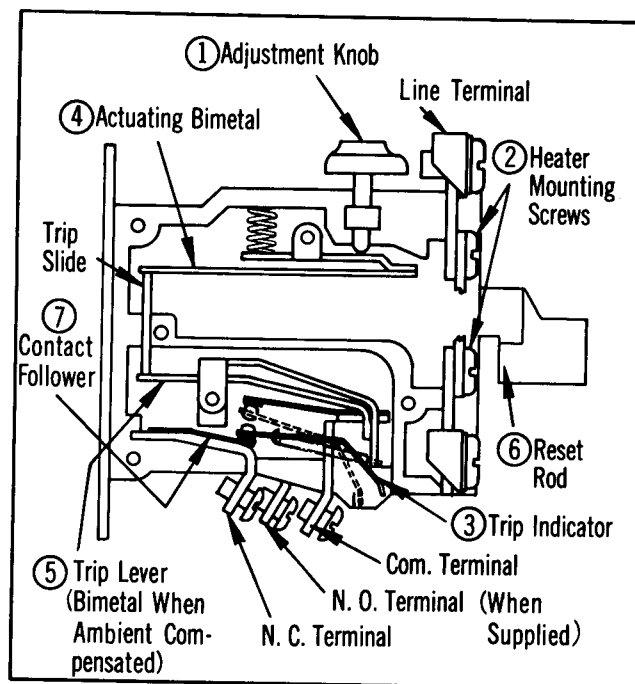

Figure 2 - Parts Identification
The Westinghouse Type A Single Pole Overload Relays must be installed in a vertical position with the adjustment knob (1) Figure 2, at the top. Each relay is accurately calibrated at the factory and should not be tampered with. Installation should be made with the proper wire size for the application and all wires should be securely fastened to the relay.
Adjustable Trip - The trip rating of a specific heater element can be adjusted over a range of approximately 85% to 115%. This is accomplished by turning the red adjusting knob (1) on top of the relay (see Figure 2) to the respective stop position. With replaceable heaters (see (2), Figure 2) in approx. 10% current increments the relay is capable of being adjusted over this 10% range to permit the desired close protection.
Trip Indication - An immediate visible indication of trip is standard on the Type A overload relay. When an overload occurs, which causes the relay to operate, a trip indicator (3) projects out through a small opening at the bottom of the relay (see Figure 2) and thus shows positive visual indication of trip.